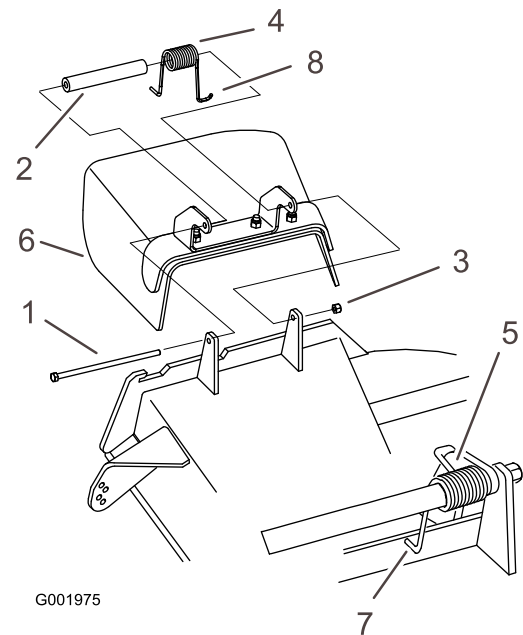

Figure 63
- Remove the locknut, bolt, spring and spacer holding the deflector to the pivot brackets (Figure 63). Remove damaged or worn grass deflector.
- Note:** Make sure the **L** end of spring is installed behind deck edge before installing the bolt as shown in Figure 63.
- Install bolt and nut. Place the **J** hook end of spring around grass deflector (Figure 63).